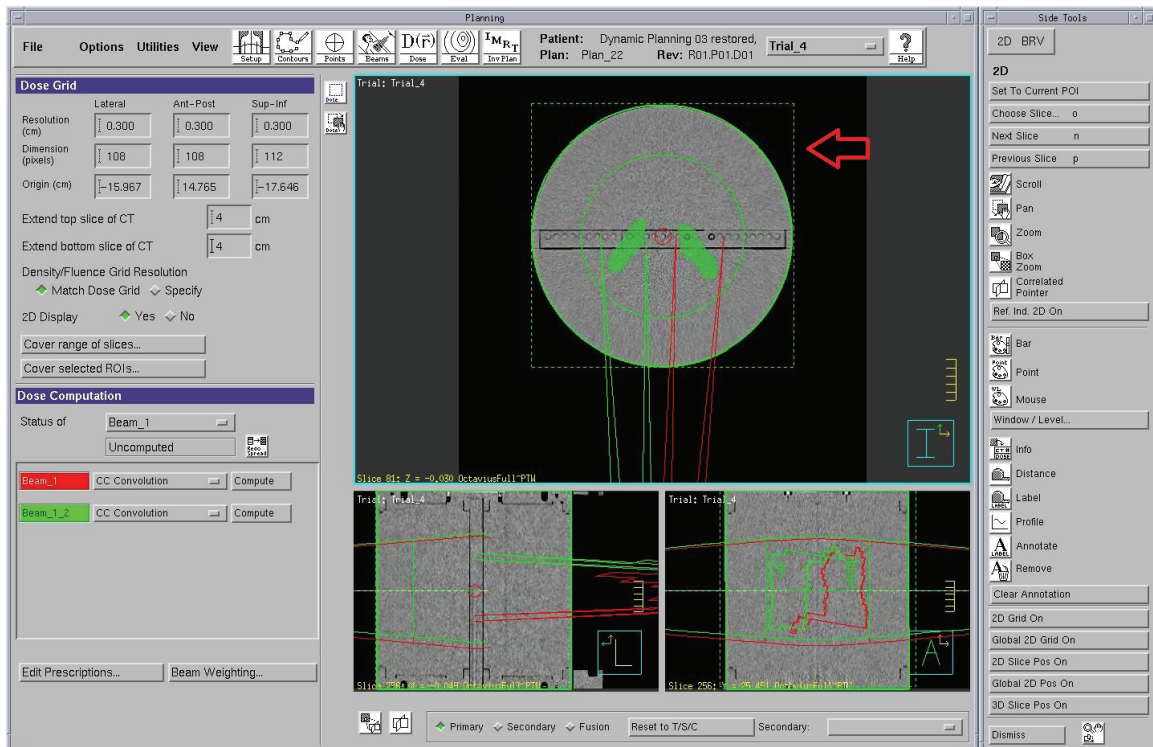

Fig. 4.7 Dose grid specification and shaping
- Specify the dose grid, and shape it so to include the OCTAVIUS 4D cylindrical body ROI (Figure 4.7).